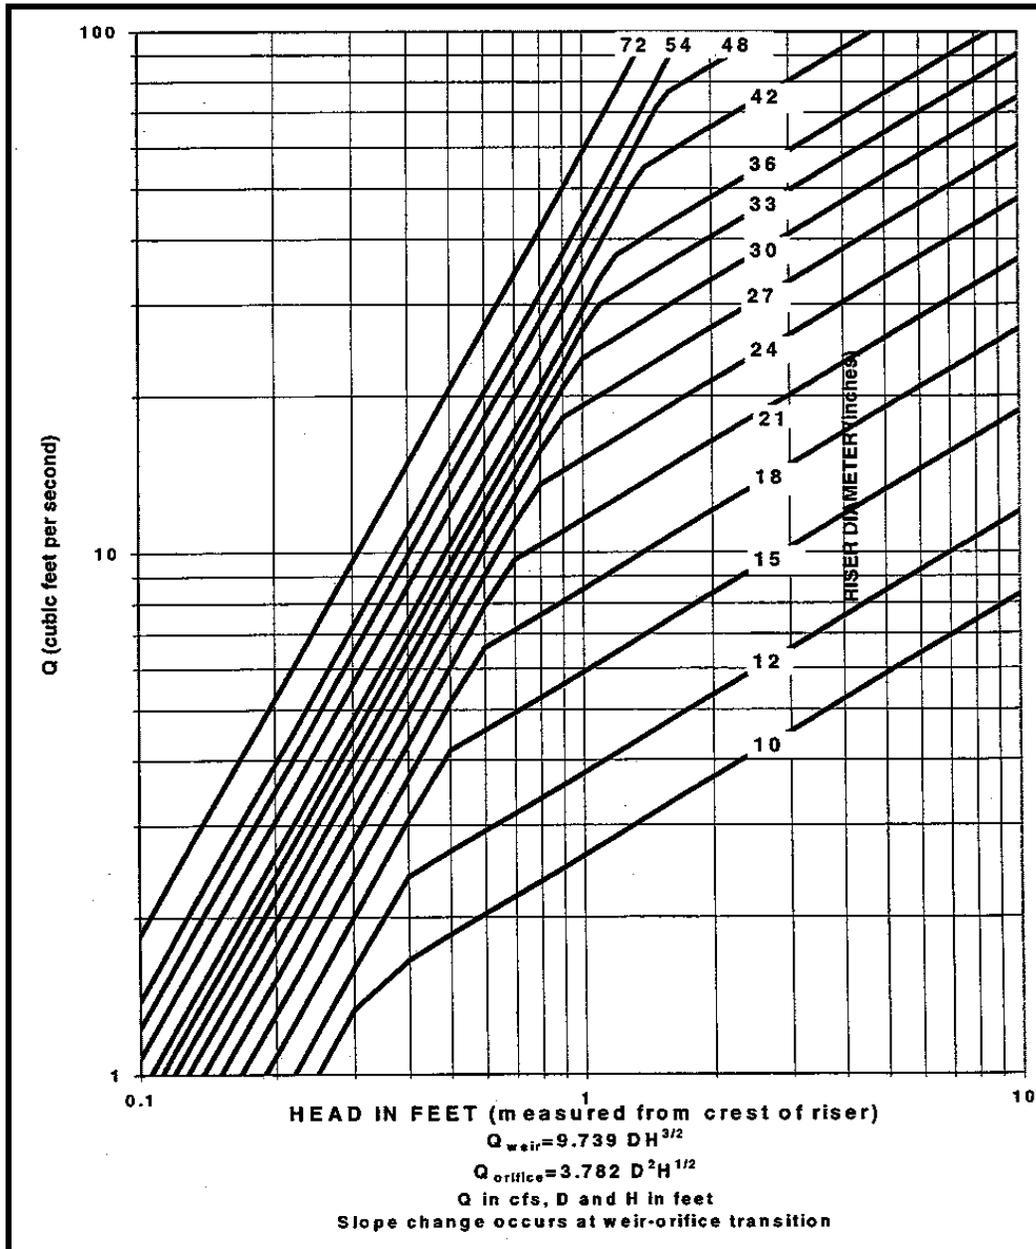

Figure E.4E-3. Riser Inflow Curves.
- A sharp crested overflow weir shall be used ~~Weirs may be used as flow restrictors. However, they shall be designed to provide for primary overflow of the detention BMP and should be analyzed for the developed 100-year peak flow dischargeing to the detention facility (Figure E.4E-3).~~
The combined orifice and riser (or weir) overflow may be used to meet performance requirements; however, the design shall still provide for primary overflow of the developed 100-year peak flow assuming all orifices are plugged. The nomograph in Figure E.4E-3 can be used to determine the head (in feet) above a riser of given diameter and for a given flow (usually the 100-year peak flow for developed conditions). For design requirements on overflows, refer to Volume 3, Section 4.3.4.